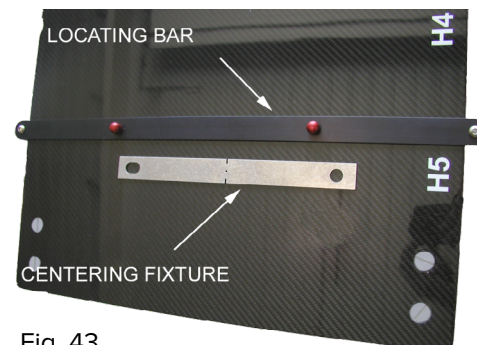

Fig. 43
1. Install the Locating Bar on the CT Overlay and then set the Centering Fixture Bar on the Locating Bar at the head or foot end of the CT Overlay (Fig. 43).